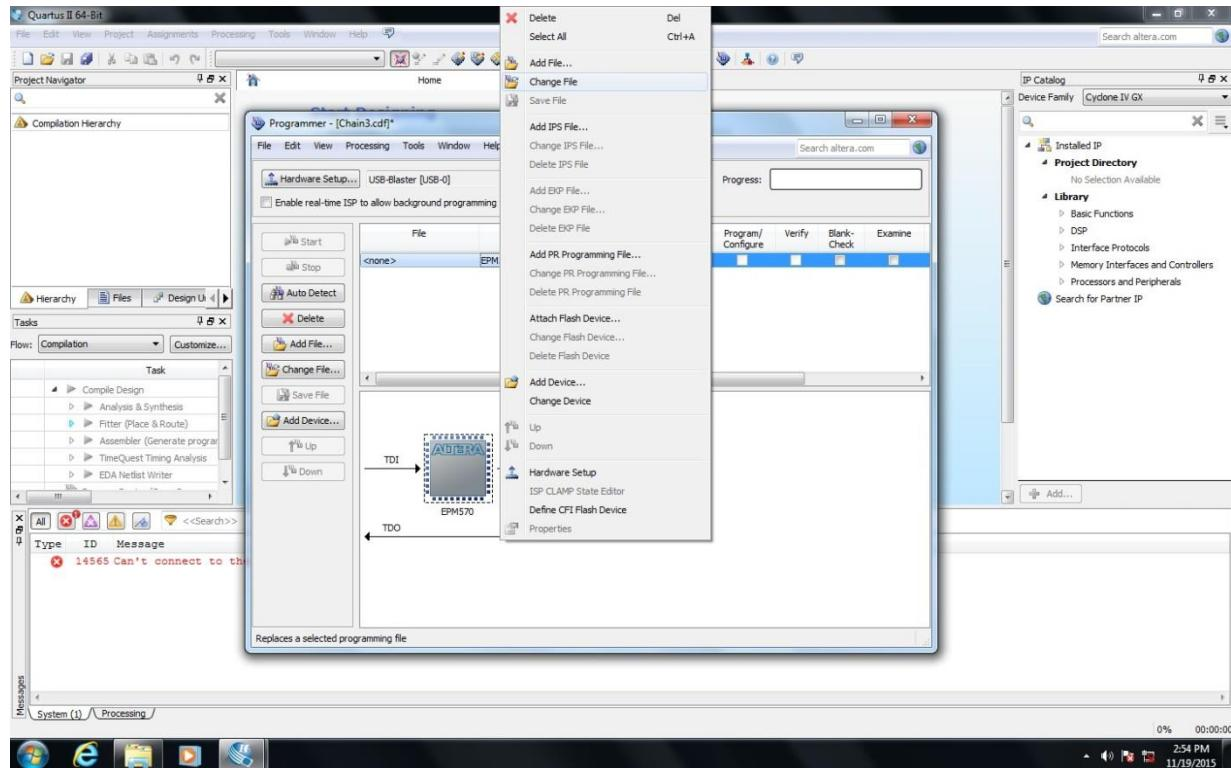

Figure 31: Changing the image file to be flashed
- Choose the CPLD image file through *change file* option by *rightclicking* as shown in the figure 31.